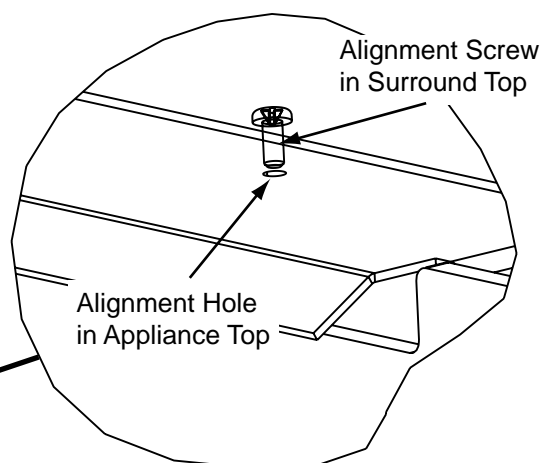

Figure 42.2
6. Align the 2 screws in the top surround piece to the 2 alignment holes on the appliance top. **Figure 42.2.**